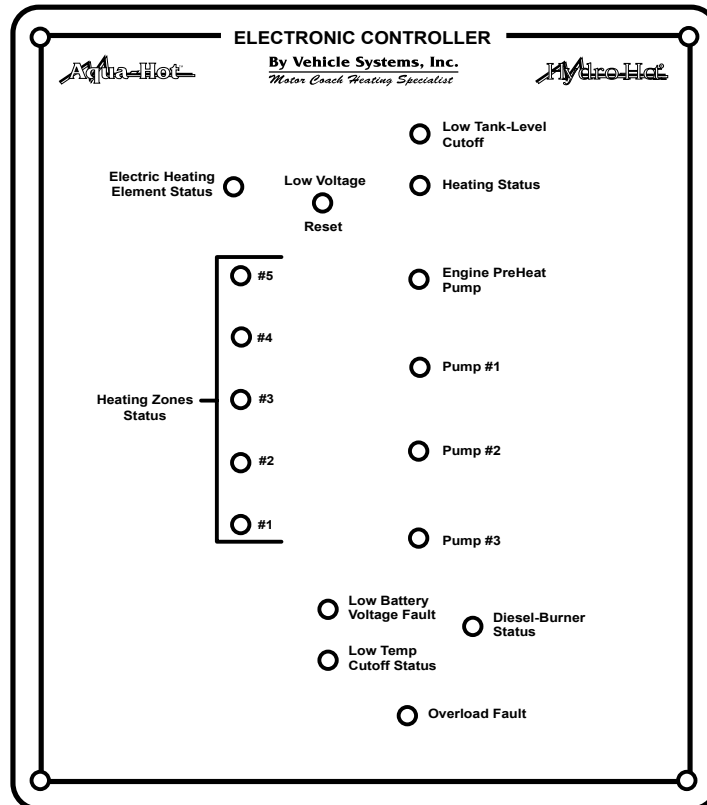

Figure 6
If the Aqua-Hot's Diesel switch "**Indicator Light**" does not illuminate, and the Diesel-Burner is not functioning, locate the Electronic Controller (**Figure 6**) and check the following:
- A. Check the Aqua-Hot's Electronic Controller for any RED lights indicating a fault condition. Reference **Figure 6** and the Electronic Controller Troubleshooting section to identify these fault conditions.